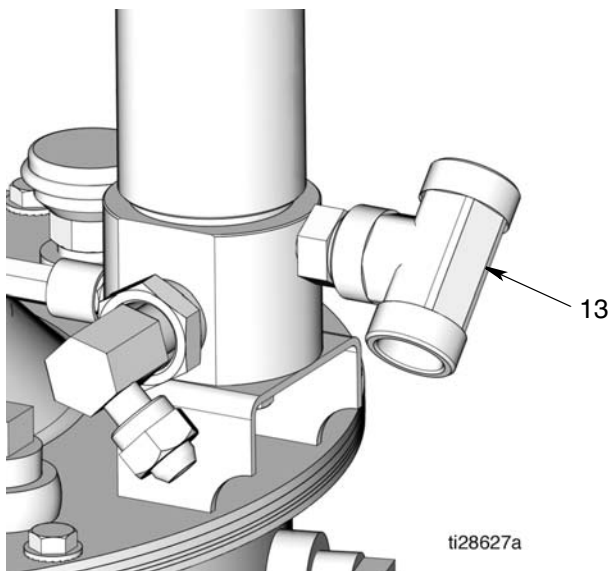

FIG. 23
**NOTE:** When the tee fitting (13) is correctly installed, the tee fitting should be oriented to the vent valve (C) as shown in FIG. 23.